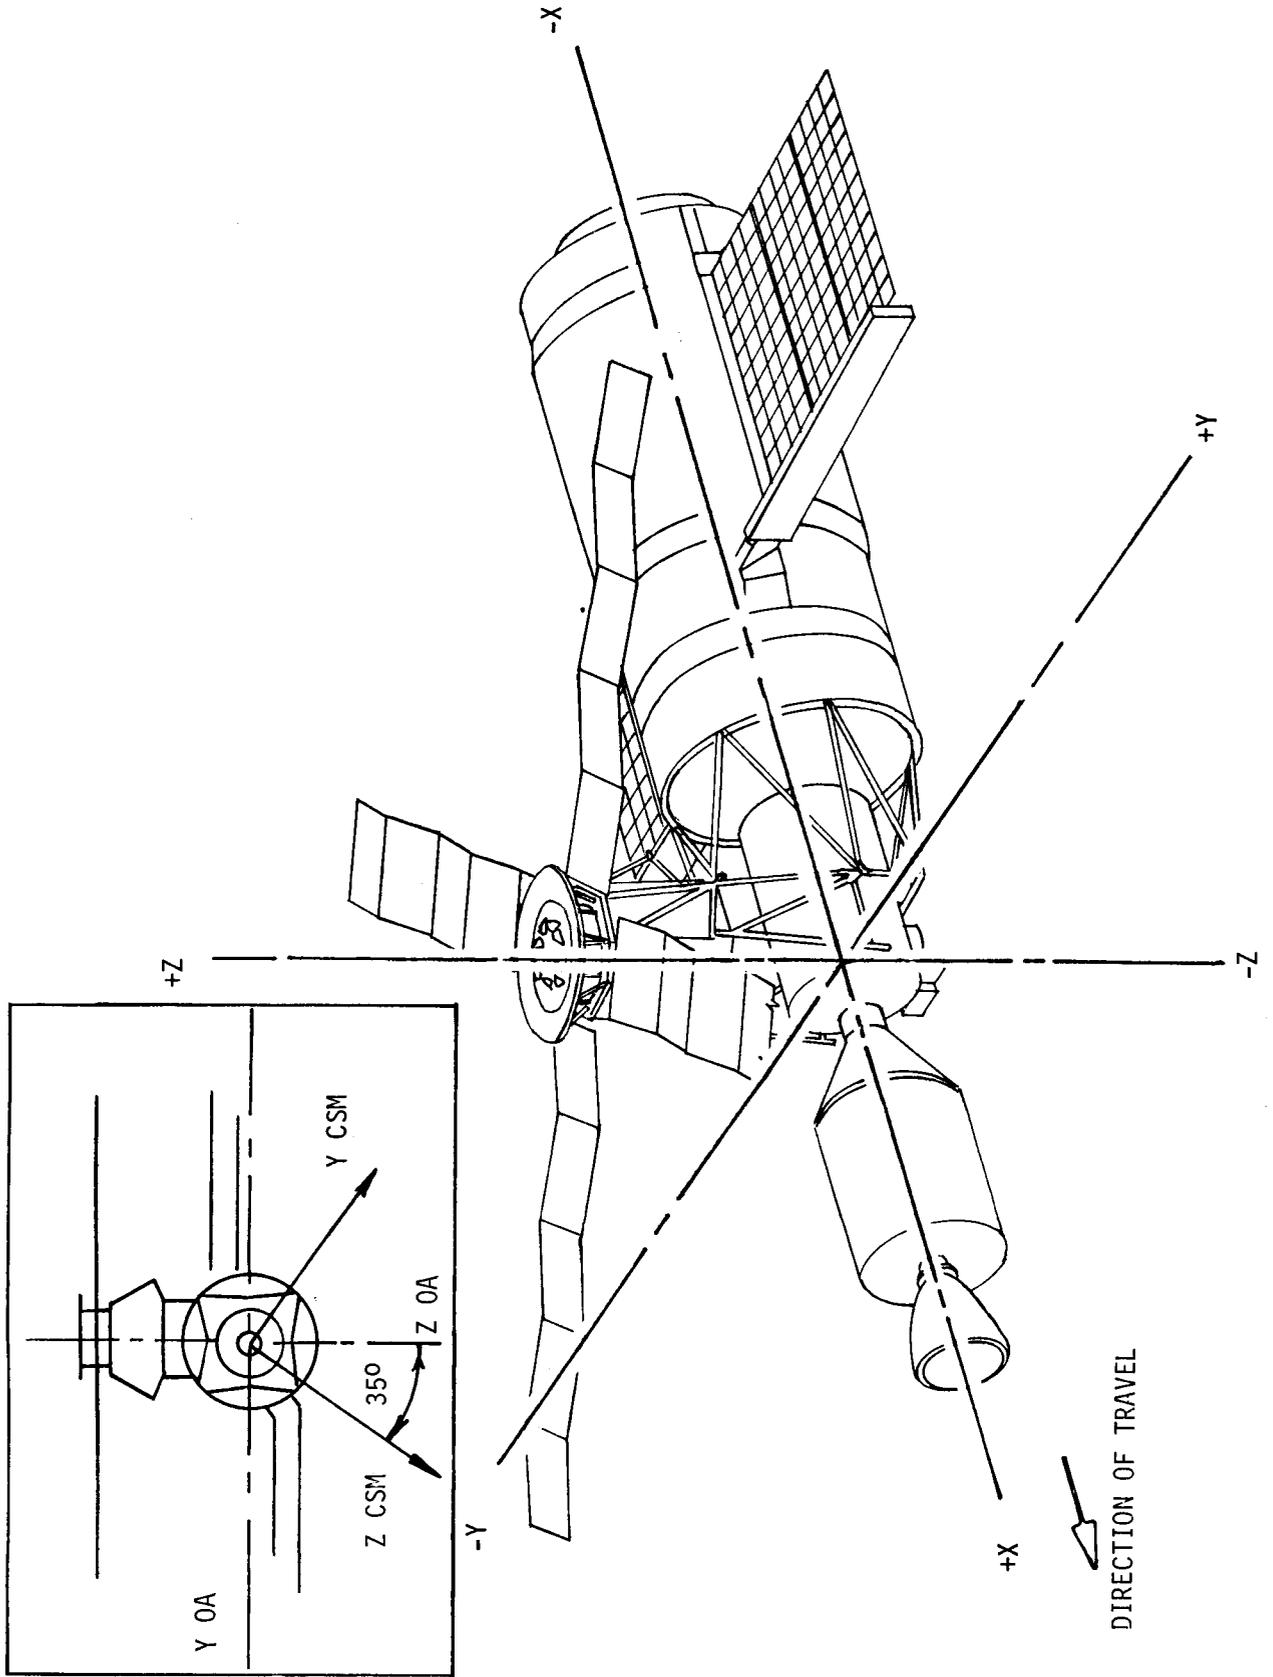

Figure D-3. Skylab Dynamic Body Axis System
- Solar Inertial (SI) - The solar inertial attitude is defined as the principal SWS X axis in the orbital plane with the Z axis coincident with the sun line. The +Z axis points directly toward the sun and at orbital noon the +X axis is in the direction of the velocity vector. Refer to Figure D-3, Skylab Dynamic Body Axis System for axes reference.